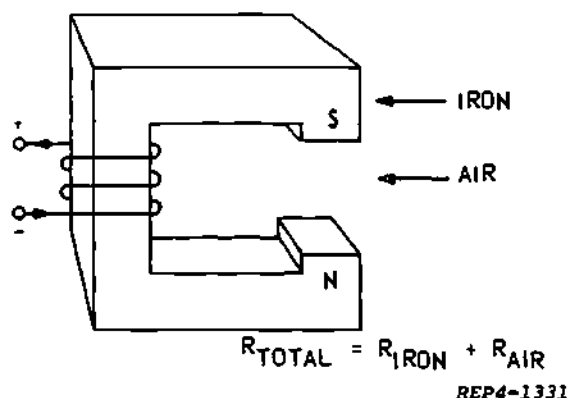

Figure 8-1. Total Reluctance of a Magnetic Circuit
8-2. In electrical circuits, voltage and current are the basic electrical variables. In the magnetic circuit, the magnetic variables are magnetomotive force (MMF) and flux (ϕ). Magnetomotive force is the basic magnetic potential or pressure; it is the force necessary to create a magnetic field. MMF is determined by the number of turns of a coil times the current flow, often referred to as ampere-turns (NI) of a coil. If three amperes of current flow through three turns of wire, shown in Figure 8-1, the MMF is nine ampere-turns.
Where materials of different permeability make up the magnetic path, reluctance must be determined for each portion of the path and added. For example in figure 8-1, the total reluctance equals the reluctance of iron plus the reluctance of air.